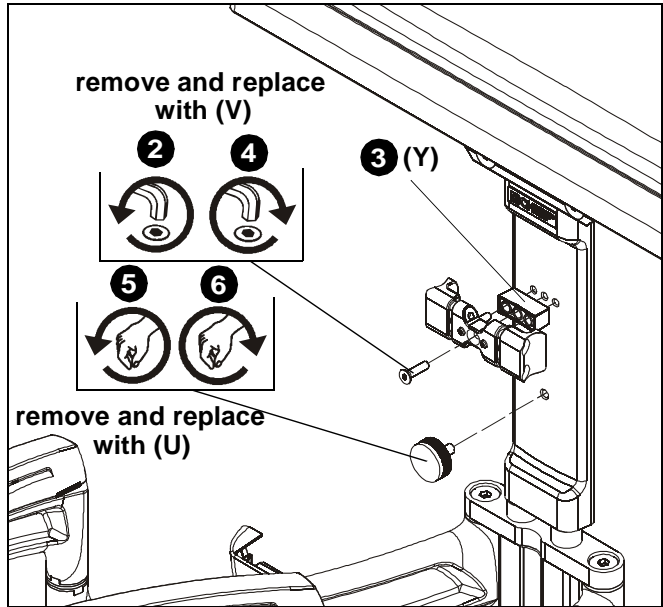

Figure 23
2. Remove flat hex-head screw holding latch to center support. (See Figure 23)
3. Place latch spacer behind latch and line with holes on center support. (See Figure 23)
4. Install #10-24 x 1 1/4" flat hex-head screw (V) through latch and latch spacer and into holes on center support. (See Figure 23)
5. Remove 1/2" knob assembly installed on center support. (See Figure 23)
6. Replace 1/2" knob assembly with 1" knob assembly (U). (See Figure 23)